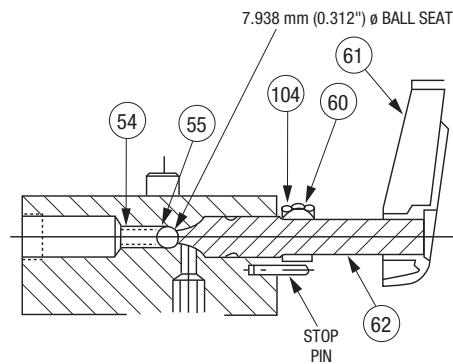
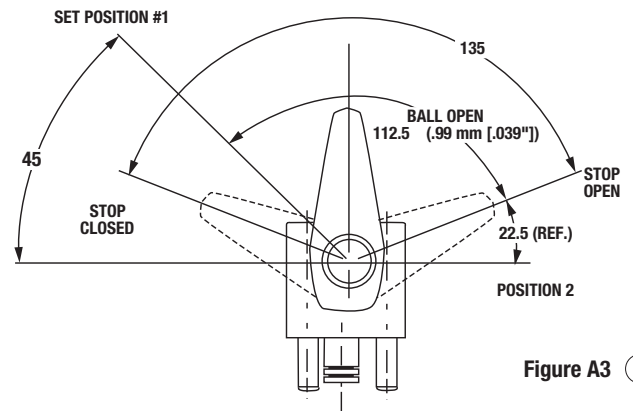

Figure A2 8
Figure A3 8
Manual control valve needs adjustment or repair.	See Hydraulic Schematic (8) and refer to Figures A2 and A3 in the Repairs section of this manual
The manual control valve needs to be adjusted.	See Manual Release/Automatic Release Valve Handle Setting, Figure A3 in the Repairs section of this manual.
Check ball does not seat properly.	See Manual Release/Automatic Release Valve Handle Setting, Figure A2, and Ball Seat Refinishing, Figure B4 in the Repairs section of this manual.
The manual control valve needs to be adjusted.	Adjust the handle. See Manual Release/Automatic Release Valve Handle Setting, Figure A3 in the Repairs section of this manual.
Manual control valve set incorrectly.	See Hydraulic Schematic (8) and refer to Figures A2 and A3 in the Repairs section of this manual.
Refer to Figures A2 and A3. Thread in the shaft (62) until it just touches the check ball (55) (in its spring-loaded closed position). Slide collar (104) on the shaft. Position the handle (61) at the location "Position 1," (Figure A3), with the other surface of the handle flush with the end of the shaft. Lock in place. Rotate the handle to "Position 2," (Figure A3). Slide the collar toward the valve body until it contacts the 15.9 mm (5/8") diameter portion of the control shaft. Rotate the lock collar clockwise until it touches the stop pin, and lock in place.